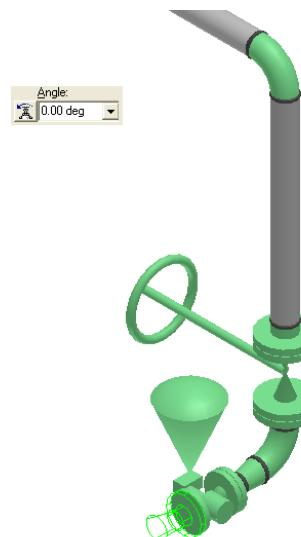

Figure 3.85: Outlined Eccentric Reducer in the Graphic View
31. An outline of the eccentric reducer and mating flange will appear in the graphic view, as shown in Figure 3.85. Key in **0 deg** in the **Angle** drop-down list on the **Insert Component** ribbon to rotate the eccentric reducer so that the flat side is towards the bottom.